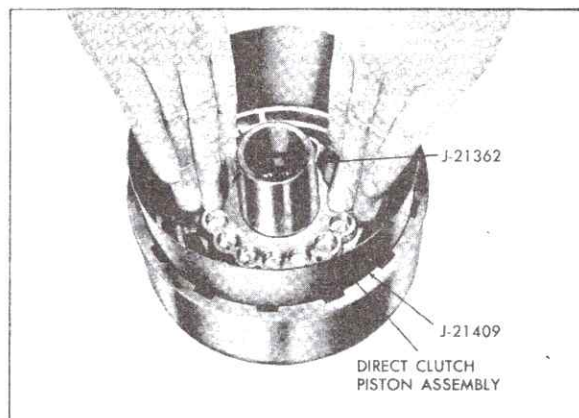

Fig. 7-70 Installing Direct Clutch Piston
3. Place Forward and Direct Clutch Inner Seal Protector, J-21362, over direct clutch hub. Install clutch piston inside Forward and Direct Clutch Piston Installer, J-21409, insert assembly in direct clutch housing, Fig. 7-70, and install clutch piston by rotating it slightly, in a clockwise direction.